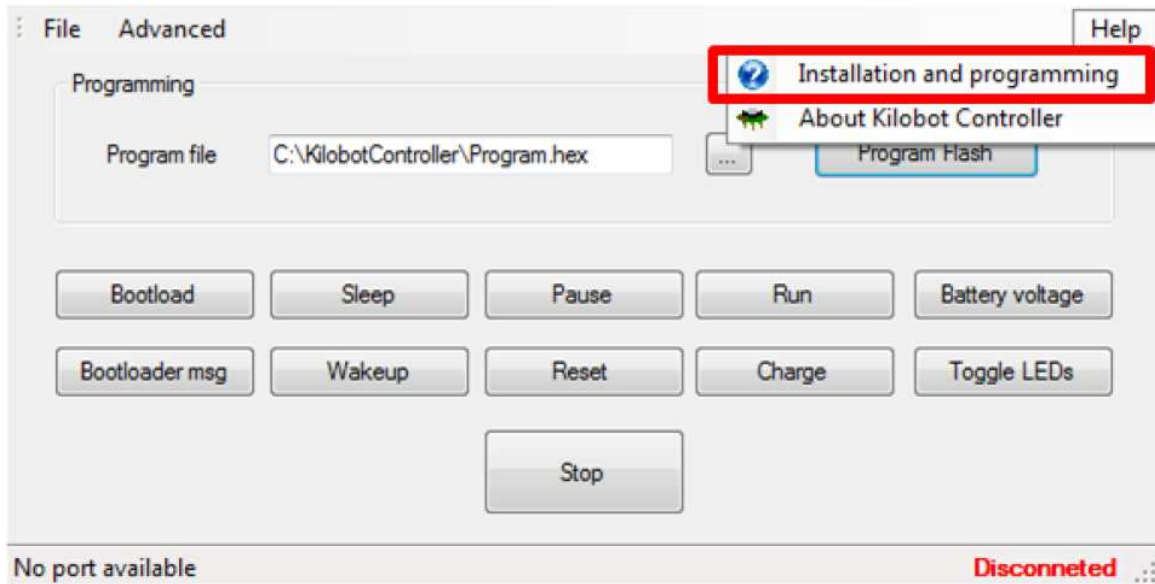

Figure 4.1: OHC software
2. In the Help menu of *KilobotController.exe*, select “Installation and programming” and follow the instructions to install the software and drivers (Fig 4.1).